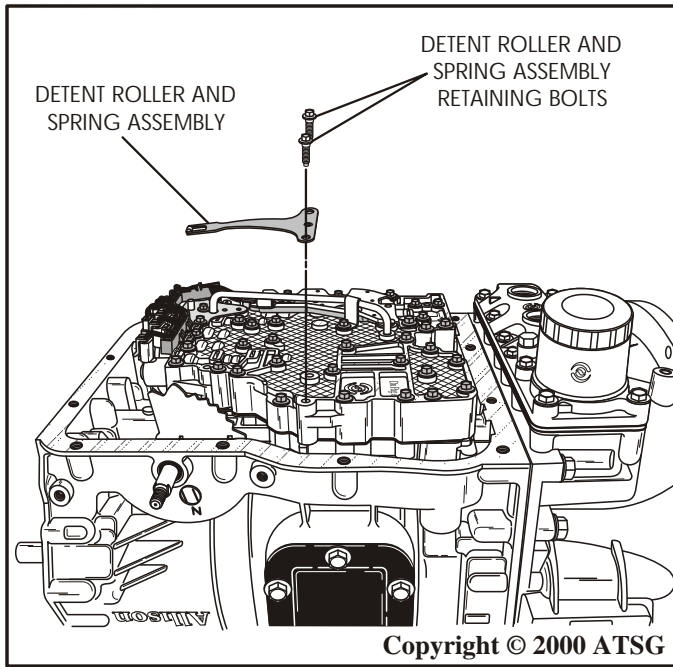

Figure 48
13. Remove the inside detent roller and spring assembly retaining bolts, using an 8mm socket, as shown in Figure 48.
14. Remove the inside detent roller and spring assembly, as shown in Figure 48.